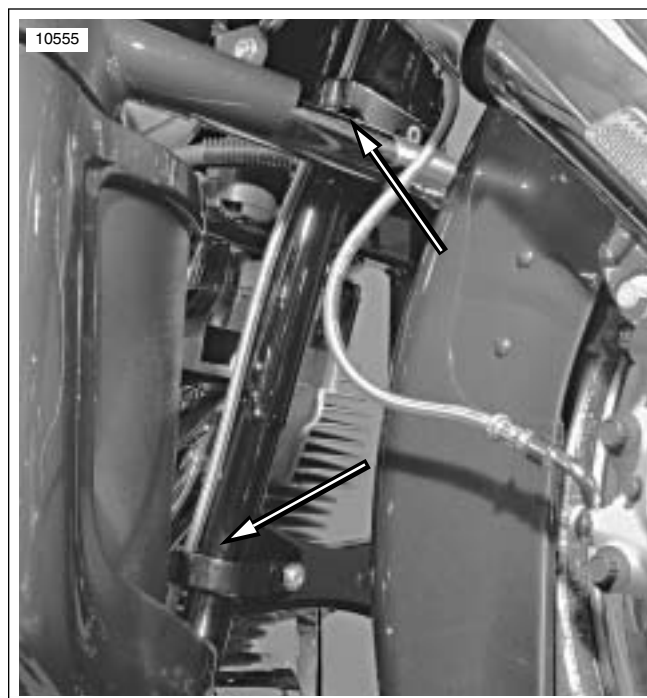
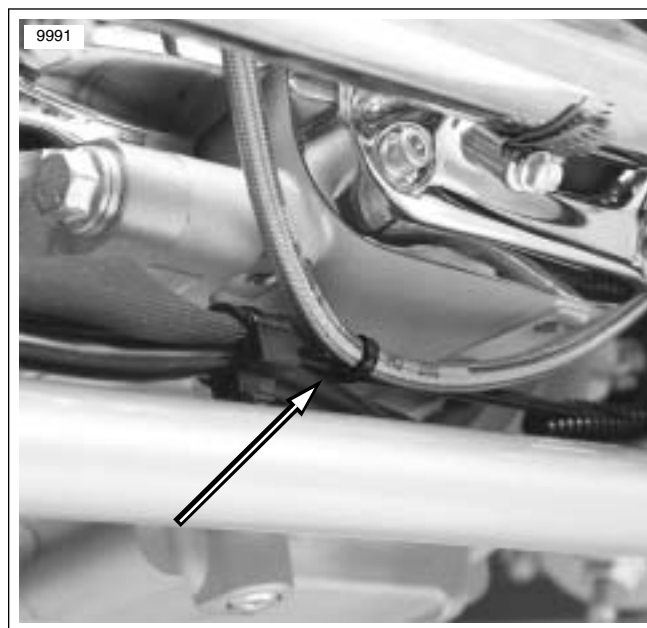

Figure 2-39. Clamp Locations on Frame Down Tube
Figure 2-40. Cable Wrap Locations around Clutch Fluid Line
12. See Figure 2-39. See Figure 2-40. Loosen clamps and cut cable ties around old clutch fluid line along right side frame down tube and behind cam cover around the rear brake line in front of the clamp.
- f. See Figure 2-40. Line is cable wrapped along rear brake line just in front of main wire harness conduit.
3. See Figure 2-39. Install clamps to retain clutch fluid line at two locations on right frame downtube.